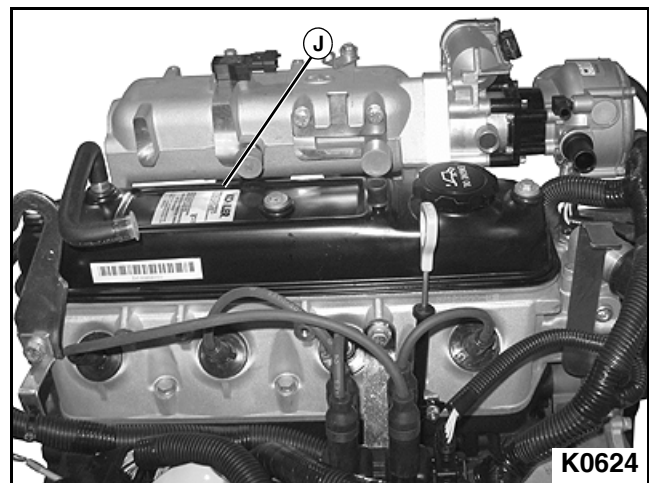

Figure 3-98
7. Remove rocker arm cover (J) from cylinder head. **See Figure 3-98.**